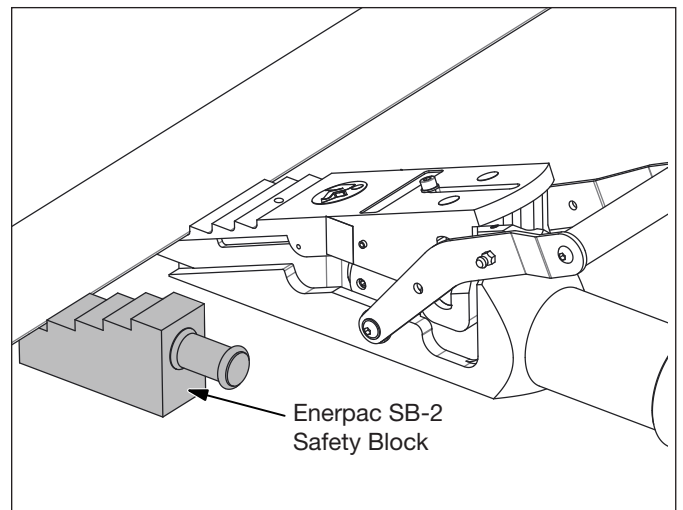

Figure 4, Enerpac SB-2 Safety Block
6. When the item has been lifted to the desired height, or to the maximum height on the step used, insert the Enerpac SB-2 safety block (included separately with lifting wedge). Refer to Figure 4.
7. When the item has been lifted to the desired height, or to the maximum height on the step used, insert the Enerpac SB-2 safety block (included separately with lifting wedge). Refer to Figure 4.